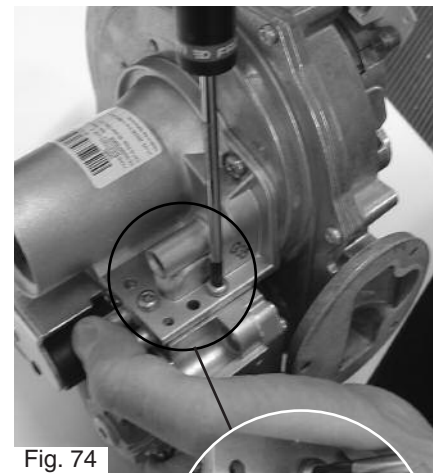

Fig. 74
4. Unscrew the three screws L holding the gas valve on the venturi (Fig. 74);